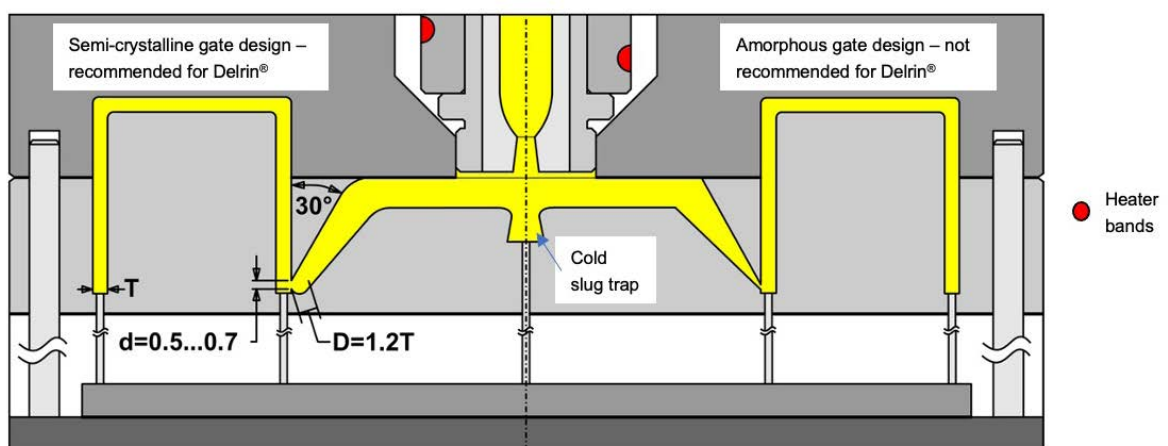

Figure 1: Indirect hot runner gating using a cold sub runner. Tunnel gate for semi-crystalline resins (left), tunnel gate for amorphous resins (right)
Cold runner and gate designs for Delrin should follow the guidelines for semi-crystalline resins (left side of Figure 1). It is recommended that the gate diameter (d) should be at least half of the wall thickness (T) of the part. The diameter (D) of the tunnel next to the gate should be at least 1.2 times the part thickness. The amorphous gate design shown on the right side in Figure 1 is not recommended for semi-crystalline resins due to the risk of an early freezing and therefore an insufficient hold pressure time. This can result in uncontrolled shrinkage that causes voids and/or sink marks, low mechanical performance, and dimensional problems.